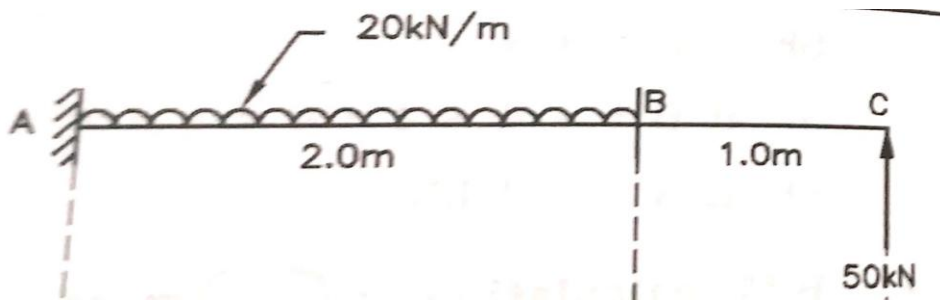

Fig.4
- (B) Draw shear force and bending moment diagram for a beam given in fig.4. **07**
- (A) Explain slope and deflection with sketches. **07**
- (B) A 6 m long steel column 200 * 300 mm in section is fixed at both ends. Find least radius of gyration, slenderness ratio, and Euler's crippling load. **07**